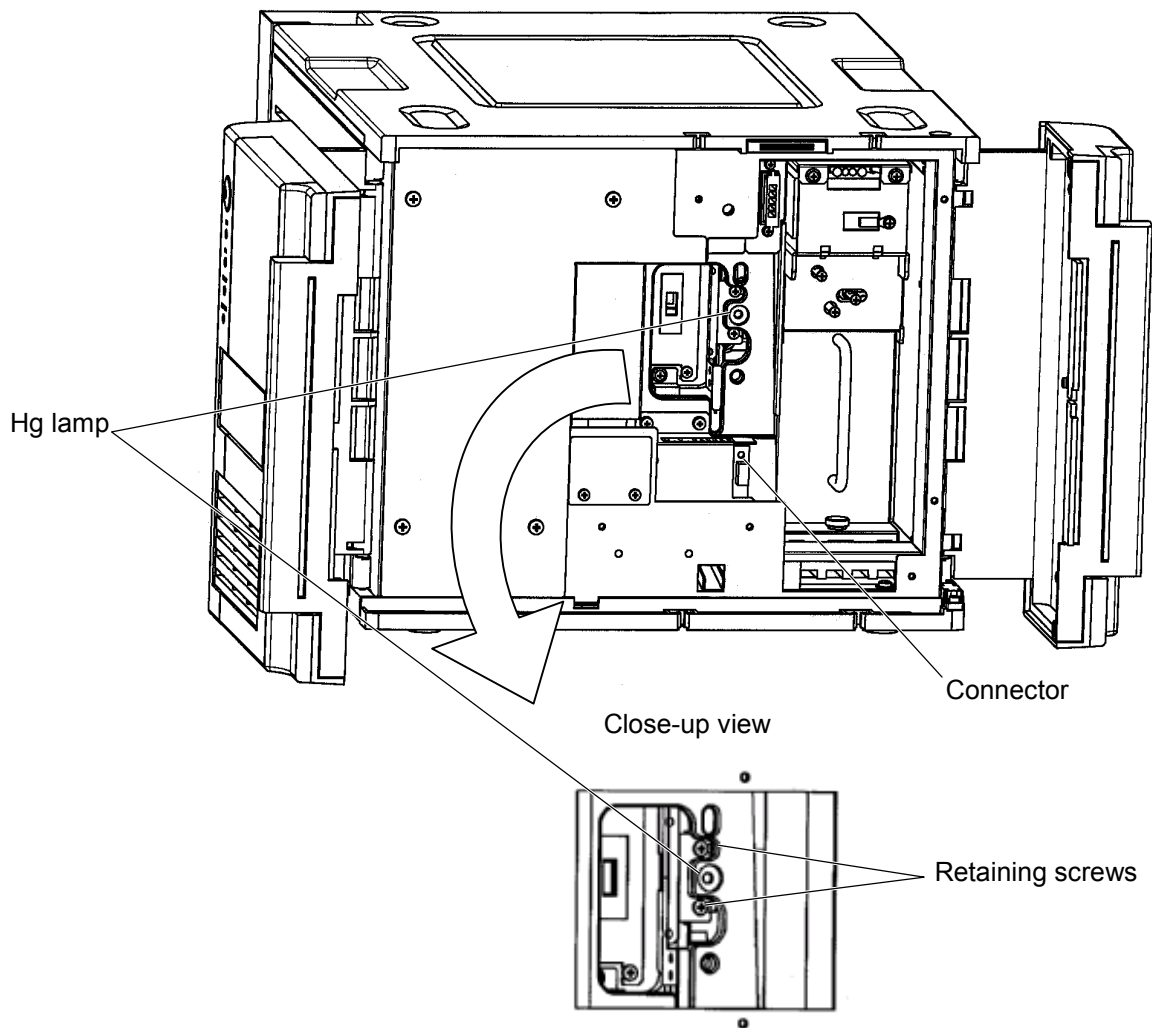

Fig. 5-13 Removal of Hg Lamp
- (d) Pull the Hg lamp cover straight out, and the Hg lamp will be seen attached at the right side interior of the main body (Fig. 5-13).